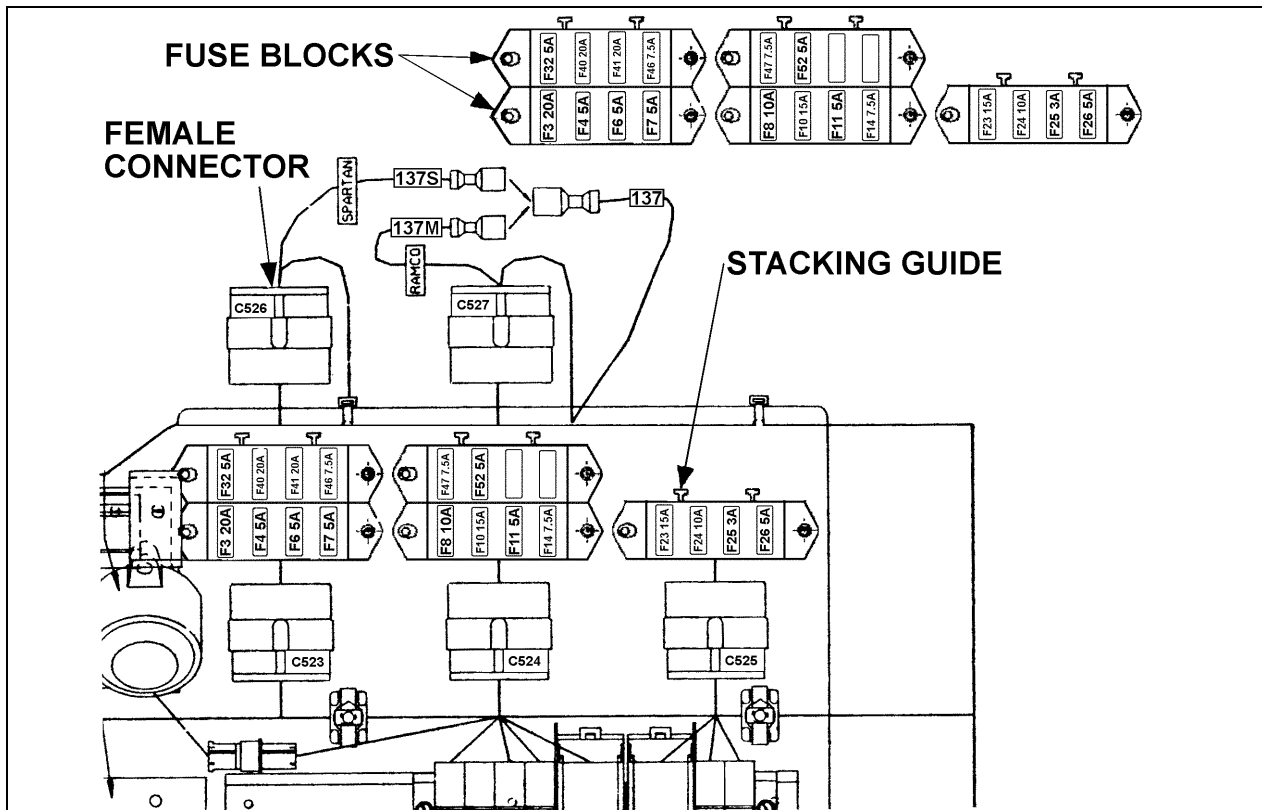

FIGURE 6: FRONT SERVICE COMPARTMENT (VIP-45)
Check fuse blocks positioning (Prévost # 562621) in front service compartment (5 blocks) and in rear electric compartment (3 blocks) (refer to fig. 6 and 8).
1. Ensure that "T" shaped stacking guides are pointing upwards (refer to fig. 6 and 8).
2. Unscrew fuse block and position upwards as per figures 6 and 8.
3. Secure fuse block and **relocate fuses properly as per figures 6 and 8.**